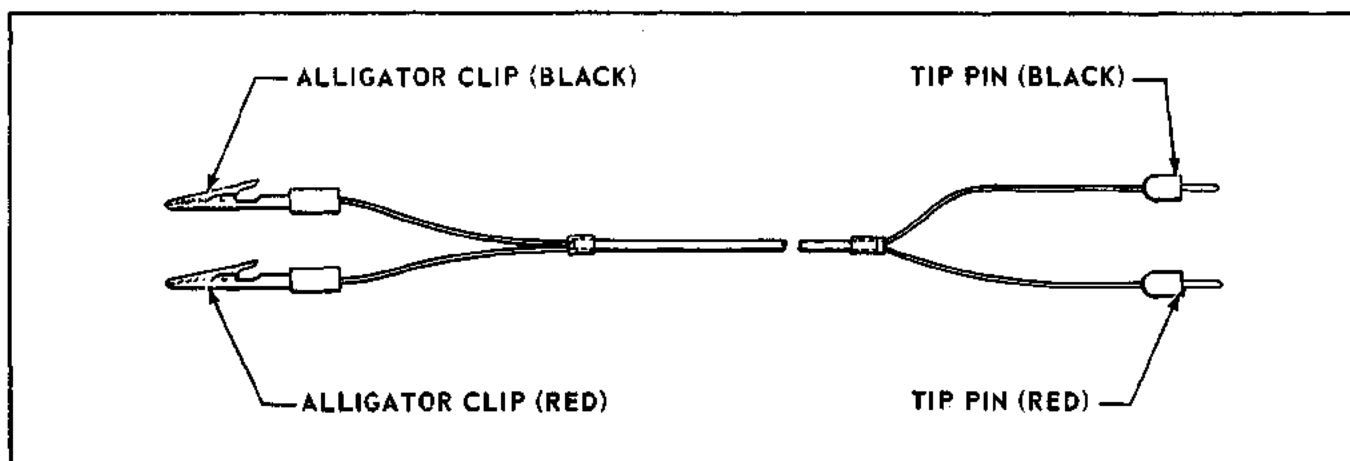

Figure 5-5. Radio Coupler Power Cable
20. Find the **RADIO COUPLER POWER CABLE** with the **RED** and **BLACK** alligator clips on one end. (Refer to Figure 5-5.) Plug the **RED** and **BLACK MALE PLUGS** of the Coupler Test Box Power Cable into the red and black female receptacles located on the face of the Radio Coupler Test Box **LABELED DC INPUT**.
44. Find six adjustment potentiometers located on the front of the console and directly under the trim meter. (Refer to Figure 5-5.) While holding IN the RED BUTTON on rear of radio coupler, insert small slot head screwdriver in SECOND HOLE FROM LEFT and adjust roll centering adjustment until needle of voltmeter of Power Section Test Box centers and holds on ZERO. If unable to adjust needle to ZERO by rotating the adjustment screw, replace console.